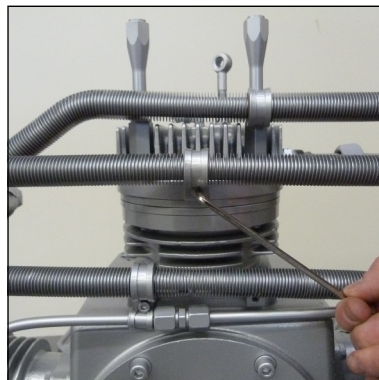

Fig. 3– clamp of cooling pipe
- Loosen clamp of cooling pipe (Fig. 3).